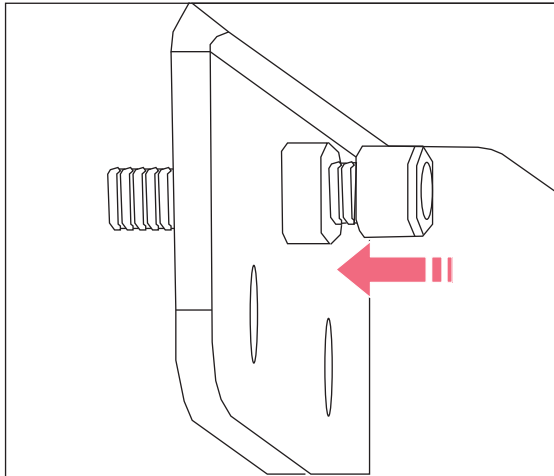

Fig. 1-2: Screw
2. Insert screw as shown (see Fig. 1-2 on p. 4).